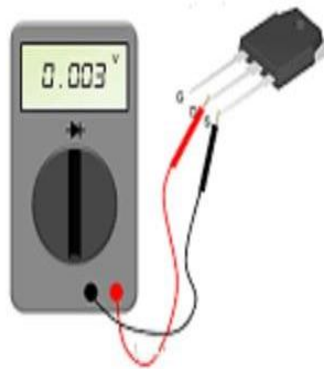

Fig. 1.25 Multimeter showing low resistance value
Step 4 – Reverse the connections of the multimeter leads, with the positive lead connected to the source terminal and the negative lead connected to the drain terminal. a relatively low resistance reading or a conductive path. This indicates that the channel between the source and drain is on or conducting current. Figure 1.25 illustrates the multimeter showing low resistance.